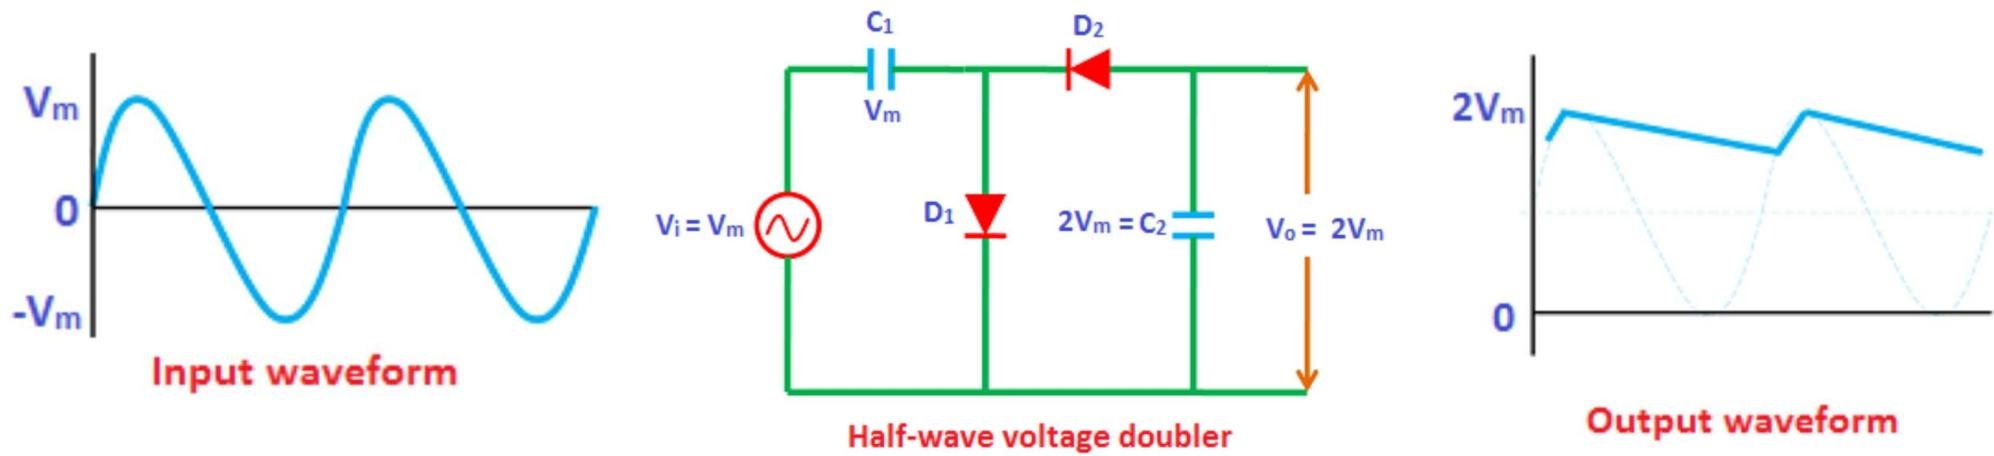

Figure 1
- ❑ The circuit diagram of the half-wave voltage doubler is shown Figure 1.